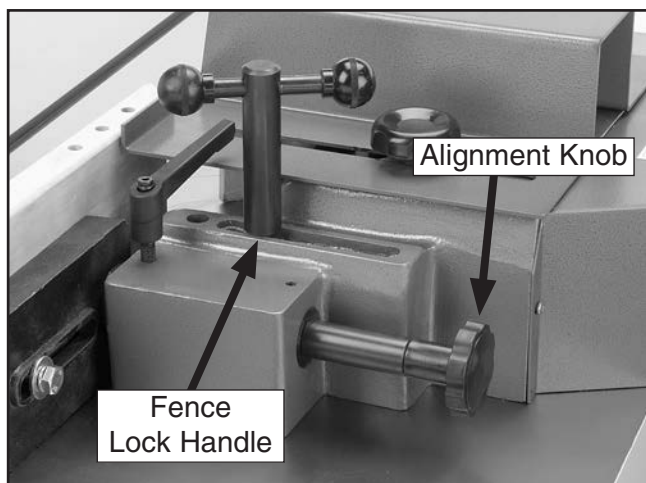

Figure 21. Fence lock handle and alignment knob (right side shown).
1. Loosen the fence lock handle (see **Figure 21**).